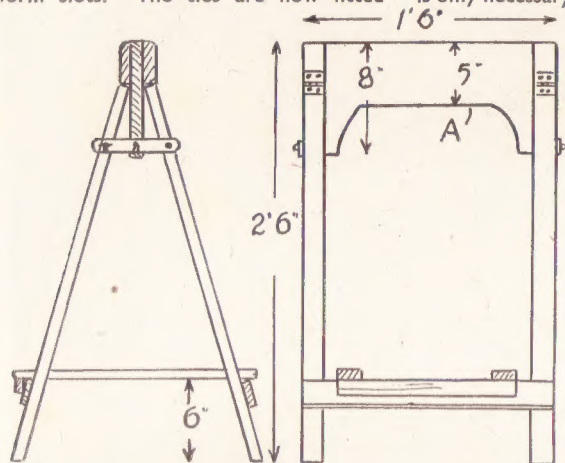

Fig. 1—End and front view of parts
A side and front elevation are given in Fig. 1. The dimensions will suit, in most cases, a wringer with 12in. rollers; if the rollers are longer, make the length of board (A) longer accordingly. All parts, except the legs, are cut from $\frac{1}{2}$ in. deal board.